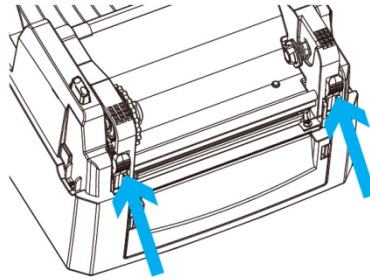

Figure 2-3: Print Mechanism Release Latches
1. Press up on the latches indicated in Figure 2-3.